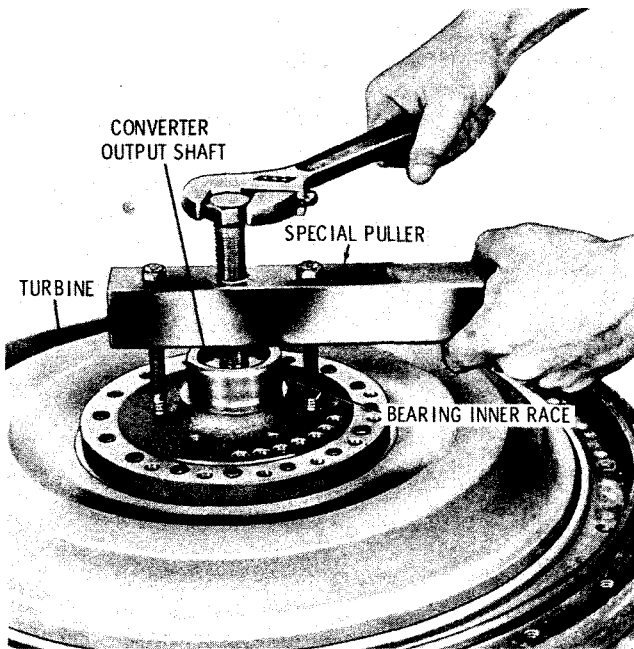

Fig. 5-15. Removing torque converter turbine
(7) Install the special turbine puller (refer to para 4-3a). Tighten the puller screw until the bearing inner race and turbine are pulled from the converter output shaft (fig. 5-15). Remove the puller, inner race and turbine.
**Note:** Three converter stator arrangements have been used among various models. All 5630 models have two stators, each mounted on eight free-wheel rollers (refer to A, foldout 5, items 5 through 13). The early 5631 models have two stators, each mounted on 12 freewheel rollers (refer to A, foldout 5, items 5, 9, 10 and 24 through 31). Current 5631 models have a single stator, mounted on 12 free-wheel rollers (refer to B, foldout 5, items 6 through 10).